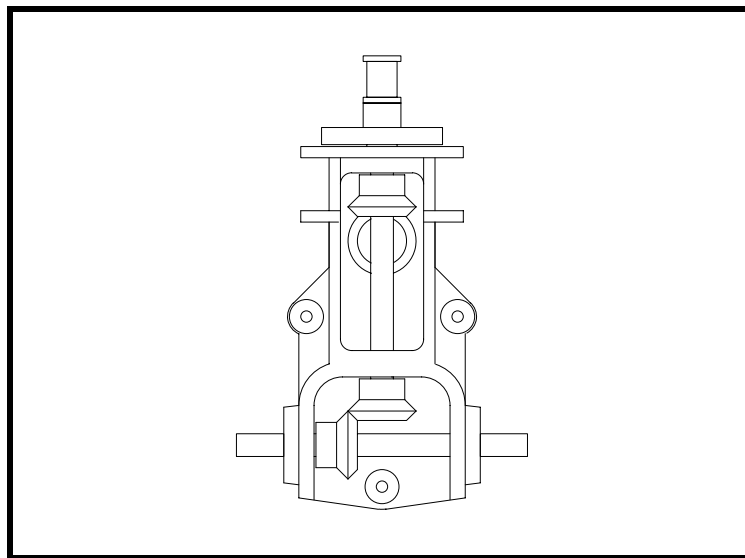

Figure 41
- ❑ Trial fit the horizontal shaft and miter gear as shown in Figure 41. If it is necessary to achieve a proper meshing of the gear teeth, grind/sand the hub of the miter gear on the vertical shaft—a number of builders have reported that this was required.
- ❑ Slip the P/N 520-5 shaft and P/N 520-7 miter gear in place as shown in Figure 41. Align the hole in the miter gear with the hole in the shaft. Drill through with a 11/64"Ø drill and then ream with a 3/16"Ø drill. Install the roll pin. (You may find it easier if you support the shaft with a pair of V-blocks.) Observe the note and warning above for the installation of taper pins.